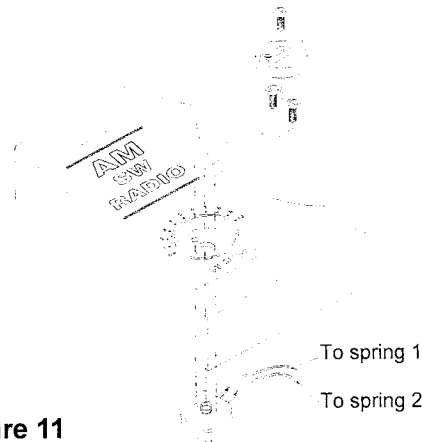

Figure 11
- Mount the tuning Capacitor from the bottom of the panel and position as shown on Figure 11.